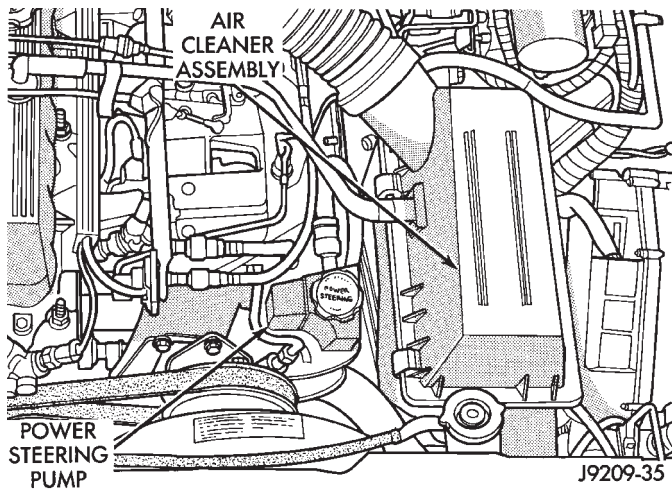

Fig. 16 Air Cleaner Assembly & Power Steering Pump
(20) Remove the fuel line bracket from the intake manifold.
(21) Remove the air cleaner assembly (Fig. 16).
(22) Remove the power brake vacuum check valve from the booster, if equipped.
(23) If equipped with power steering (Fig. 16):